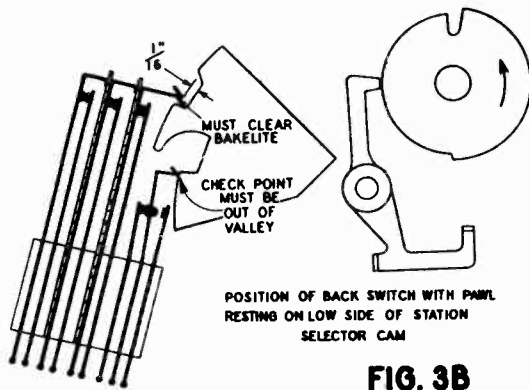
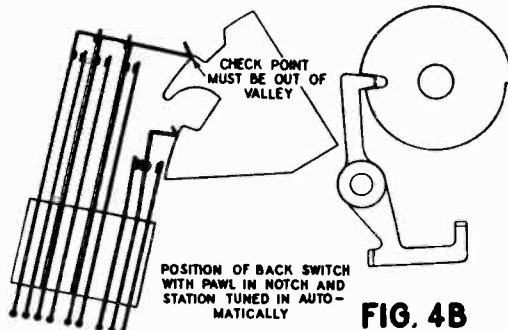

FIG. 3B
FIG. 4B
a. With the Bakelite Cam down as in figure 2B, the center contact should make with the front contact, while with the Bakelite Cam pulled up as in figure 3B, the center contact should make with the back Reversing Contact. After the instant of closing the blades should move slightly to show adequate contact pressure. IMPORTANT: Make sure that the center contact is not touching both the front and back contacts at any one time, since this may short circuit the 6-volt winding of the power transformer. If the Reversing Contacts do not make or break, bend the switch blades to secure proper operation.
c. Now pull out the Set-up Knob and run the pointer to the high frequency end of the dial by turning the Set-up Knob clockwise. Push each button to make sure that the center contact closes with the Back Reversing Contact. In every case the Pawl should rest on the Low Side of the cam. See figure 3B.
a. Leave the Bakelite Cam in the Position of figure 3B. The long Mute blade should barely hold the thin bakelite strip against the Power blade, and the long A.F.C. blade should barely hold the thin bakelite strip against the Mute blade.
b. Move the Bakelite Cam up and down by hand and observe the action of the contacts. With the Bakelite Cam up as shown in figure 4B all three sets of contacts should be open approximately 1/32 of an inch. As the Bakelite Cam is moved down (to the position of figure 3B) all three sets of contacts should close. After the instant of closing the blades should move slightly to show adequate contact pressure.
a. Push any button. Turn the Set-up Knob until the Pawl drops into the Notch on the Station Selector Cam. The upper Back Switch Operating Arm should rest just up out of the "Valley" on the Bakelite Cam (See "Check Point" on figure 4B), and
b. Repeat the above step for each of the other buttons. This is important. Due to slight variations in the Pawls, it may not be possible to adjust for all buttons so that the Back Switch Operating Arm comes exactly at the "Check Point" of figure 4B, but make sure that the Power, Mute and A.F.C. contacts are open at least  $1/32$  of an inch for each button, when the Pawl is in the Notch. Notice, too, that the bending of any switch blade or operating arm may throw out a preceding adjustment. For this reason it is well to check through the entire adjustment procedure a second time